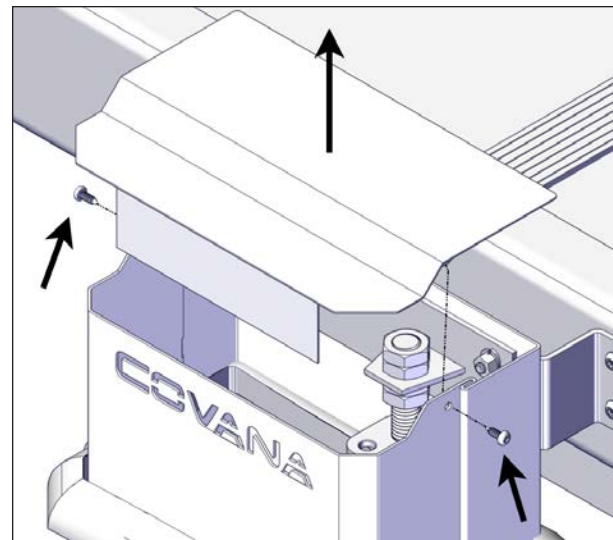

FIGURE 111: TOP PLATE REMOVAL
2. Remove the #2 Robertson screws (2) on the top plate of each post, see Figure 111. Keep the top plates and the screws in a safe location.